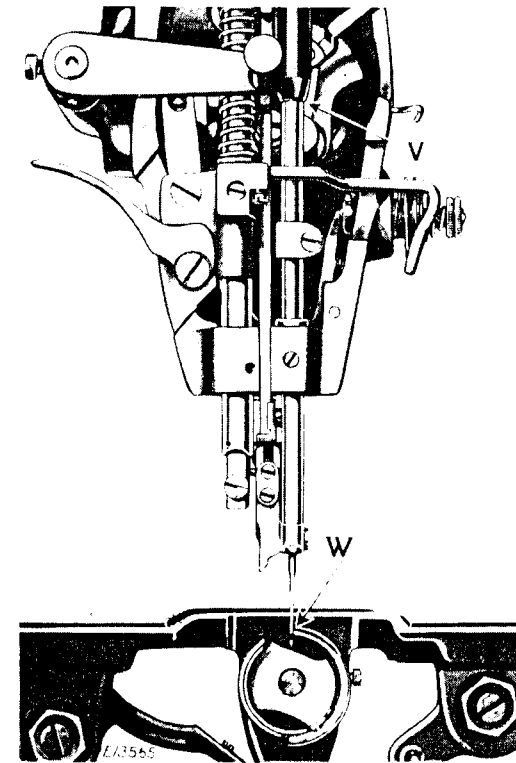
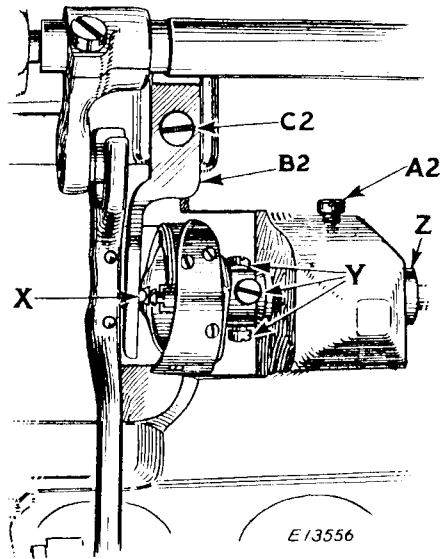
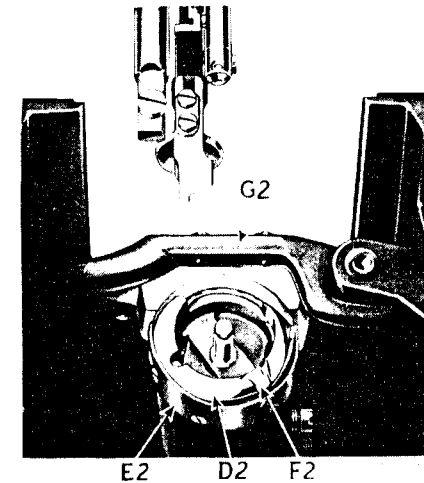

Fig.22 Needle and Sewing Hook Correctly Timed
Fig. 23 View of Underside of Machine Showing Bobbin Case Holder Position Bracket (B2) and Adjustments on Machine
Fig. 24 Showing Correct Position of Thread Guard (E2) and Bobbin Case Holder (D2) for Removal of Sewing Hook
To determine that the hook is correctly timed, place a new needle in the machine, then turn the balance wheel over toward you until the LOWER TIMING MARK on the needle bar is centered with the lower end of the needle bar bushing as shown at (V, Fig. 22) when the needle bar is on its upward stroke. With the needle bar in this position, the point of the hook should be at the center of the needle as shown at (W, Fig. 22).
In case the hook is not correctly timed, loosen the three screws (Y, Fig. 23) in the hub of the hook. These three screws can be reached from the top of the machine bed through the opening
left by the removal of the throat plate, although, for purposes of illustration, the screws are shown only in the view of the underside of the machine in Fig. 23. Rotating the balance wheel of the machine will bring these screws, one at a time, directly under the throat plate opening where they can be easily reached with a screwdriver from the top of the machine bed.
After loosening the three screws (Y, Fig. 23) turn the hook on its shaft to bring the point of the hook at the center of the needle as shown at (W, Fig. 22), then tighten the three screws (Y, Fig. 23).
The hook should be set as close as possible to the needle without touching. If the hook is too close to the needle or too far away from it, loosen the three screws (Y, Fig. 23) and the bushing screw (A2, Fig. 23) and drive the bushing (Z, Fig. 23) in or out, as may be required, until the hook just clears the needle, being very careful not to damage the bushing, then securely tighten the bushing screw (A2) and the three screws (Y).
Remove the needle, slide plate and bobbin case. Take out the screw (C2, Fig. 23) and remove the bobbin case holder position
bracket (B2, Fig. 23). Loosen the three set screws (Y, Fig. 23) in the hub of the hook, then turn the balance wheel over toward you until the feed bar (G2, Fig. 24) is raised to its highest position. Turn the sewing hook until the thread guard (E2, Fig. 24) is at the bottom, as shown in Fig. 24, and turn the bobbin case holder (D2, Fig. 24) until it is in the position shown in Fig. 24. The sewing hook can then be removed from the hook shaft.
When placing a new sewing hook on the shaft, have the thread guard (E2) of the hook at the bottom and the bobbin case holder (D2) turned to the position shown in Fig. 24, so that the hook will clear the feed bar (G2).
When the hook is in position on the shaft, turn the bobbin case holder (D2, Fig. 24) until the notch (F2, Fig. 24) is at the top, then replace the bobbin case holder position bracket (B2, Fig. 23) being careful to see that the position stud (X, Fig. 23) enters the notch at the top of the bobbin case holder, as shown in Fig. 23,